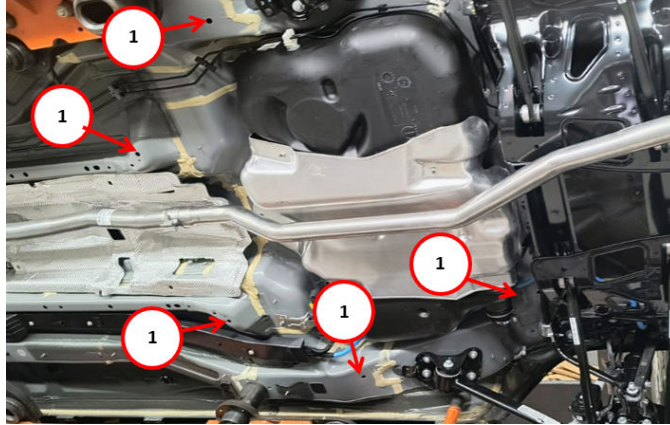

Fig. 4
5. Insert five fixing plugs (three on the right side and two on the left side of the floor) using a manual riveter with an M8 threaded tip Fig. 4.